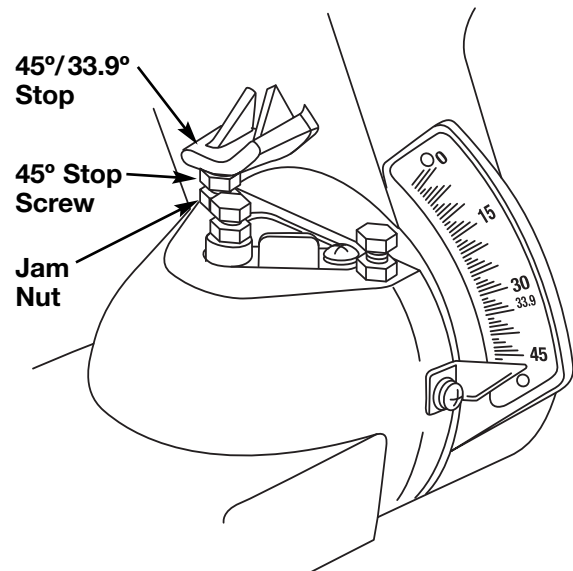

Figure 10. Bevel 45° Stop Screw and Jam Nut
1. Lower the 45° bevel stop screw jam nut using 12mm or adjustable wrench (Figure 10).
5. Adjust the 45° bevel stop until the blade makes contact with the full length of the square. Tighten 45° jam nut (Figure 10).
6. Check that bevel indicator is pointing to the 45° mark on the bevel scale (see Figure 10). If bevel indicator is not aligned with the 45° mark, first recheck the blade squareness to the table and 0° bevel indicator alignment. Then, repeat the 45° blade alignment and make appropriate adjustments.